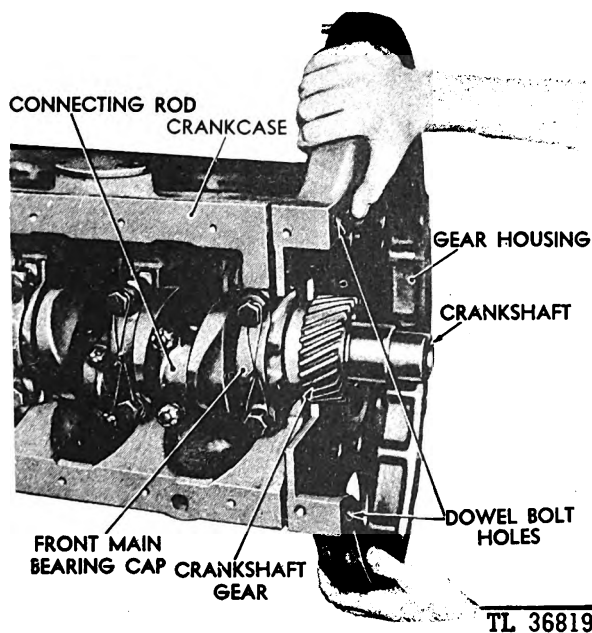

Fig. 167. Installing Gear Housing
e. *Installing Timing Gear Housing.* Shellac the gear housing gasket to the housing. Tap the two dowel bolts just through the crankcase. Set the gear housing in place. (See Figure 167.) Screw the six thin-headed capscrews with lockwashers loosely in place. Do not tighten the capscrews until the dowel bolts have been tapped through the dowel holes in the gear housing.